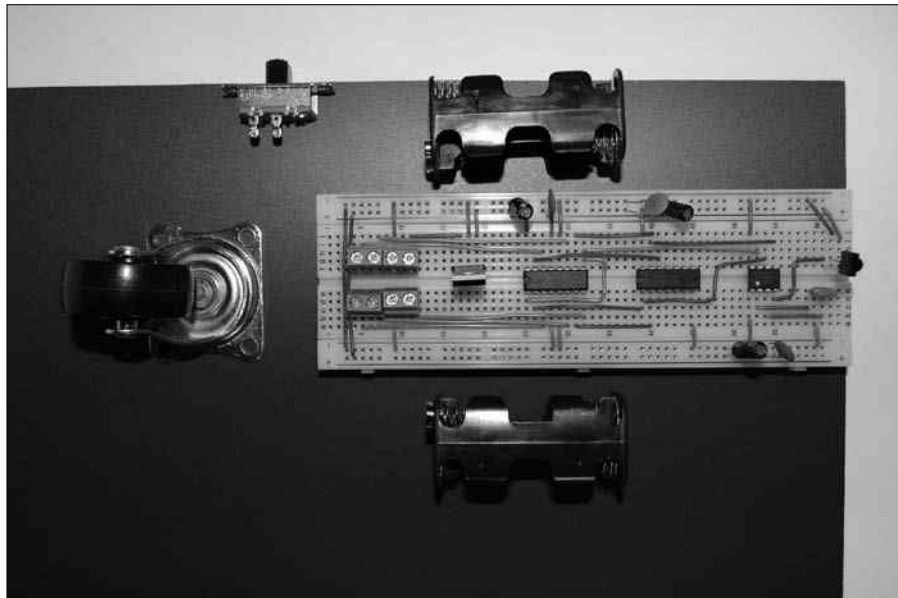

Figure 11-33:
1. **Place the breadboard, battery packs, caster, and power switch on the $\frac{1}{2}$ " PVC or plywood sheet, as shown in Figure 11-33.**